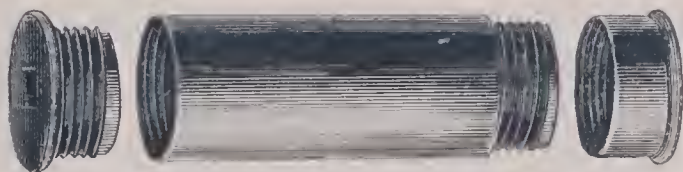

Fig. 18. Flush Joint Casing and Protectors.
**FLUSH JOINT CASING.** Where casing must be frequently pulled, we recommend *Flush Joint Casing*, described on page 47. Fig. 18 shows a short piece of it, provided with cast-iron protectors to save the threads from injury in shipping.